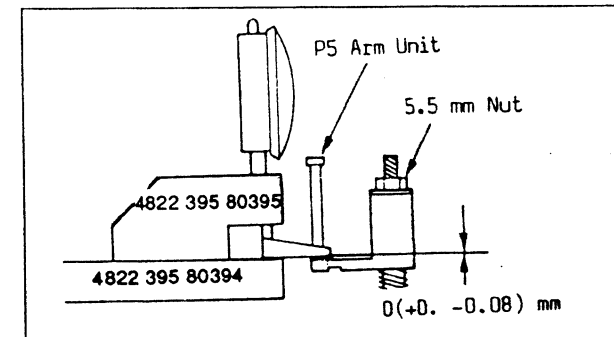

Fig. M12-4
2. Slightly raise the P5 post above the plate by turning the 5.5mm Nut counterclockwise. Place the foot on the post as shown in Fig. M12-4.